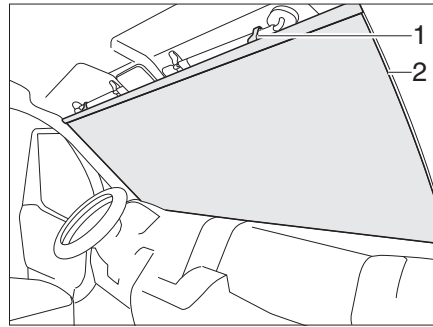

Fig. 20 Blind for the windscreen
- Pull the blind (Fig. 20,2) upwards and hook into the sun visors using the hooks (Fig. 20,1).
- Release the blind (Fig. 20,2) from the sun visor.